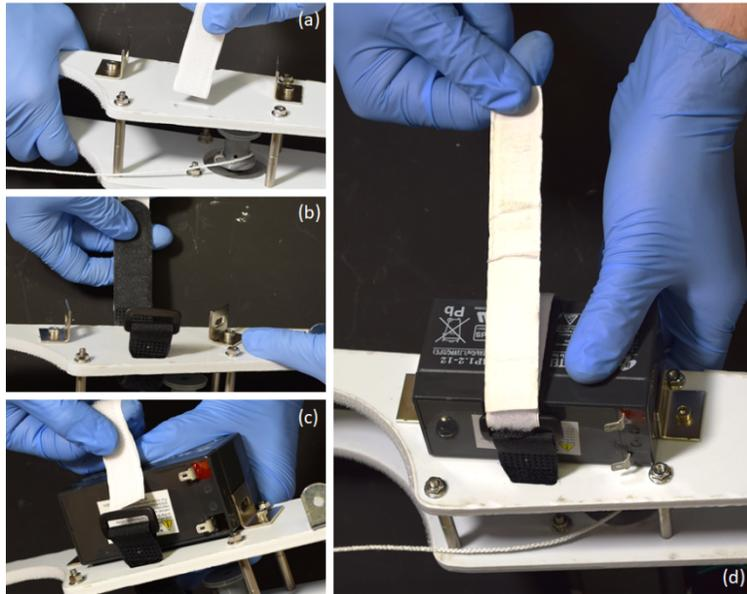

Figure 25
Step 57: Cinch the **hook-and-loop strap [Part 30]** down around the **battery [Part 31]** until snug. Then tighten the **M4 flange nuts [Part 18]** on each of the **slotted L-brackets [Part 19]** to fully fix the battery in place. Refer to figure 25.